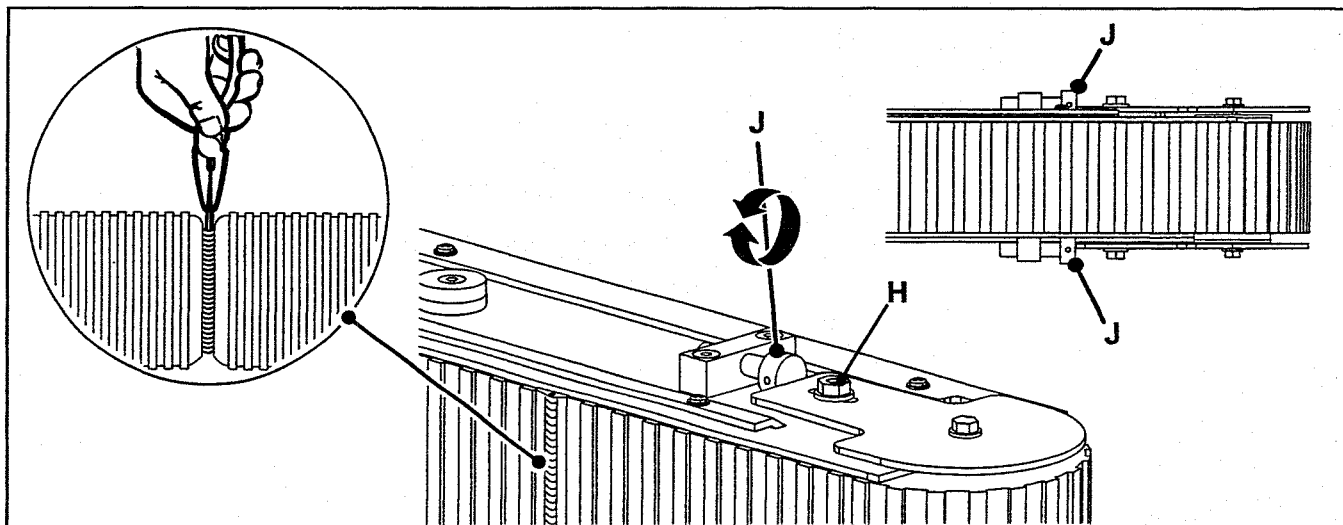

Figure 4-3 – Box Drive Assembly, Infeed End
6. Loosen, but do not remove lock nuts (H) on both the upper and lower belt tension assemblies. See Figure 4-3.
7. Turn belt adjustment screws (J) clockwise on both the upper and lower tension assemblies until belt is loose. See Figure 4-3.
10. To set drive belt tension, turn adjustment screws (J) equally on both the upper and lower tension assemblies. Turn the screws counterclockwise to increase tension or clockwise to decrease tension. See Figure 4-3.